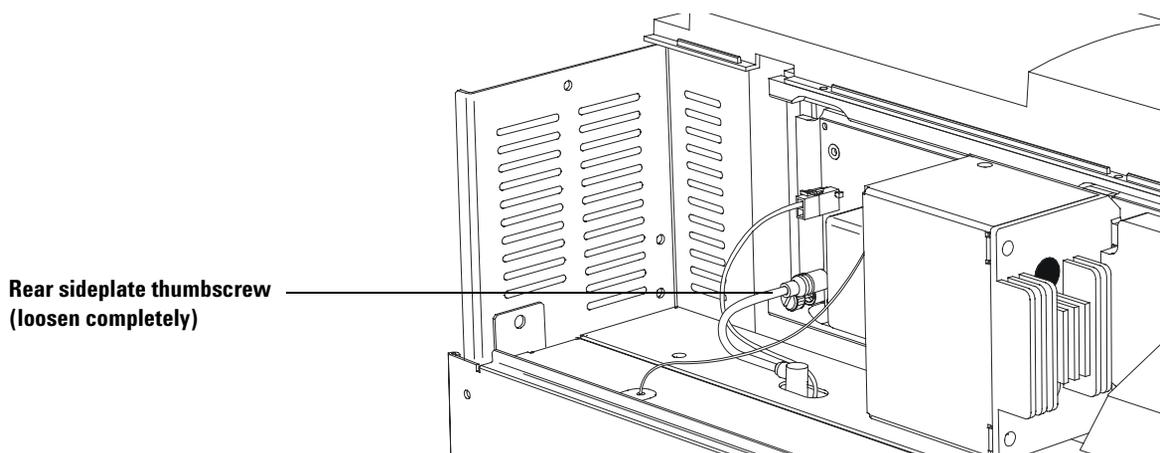

Figure 8 Loosen sideplate thumbscrews
- 6 Loosen the sideplate thumbscrews completely (shown in Figure 8) and open the analyzer.